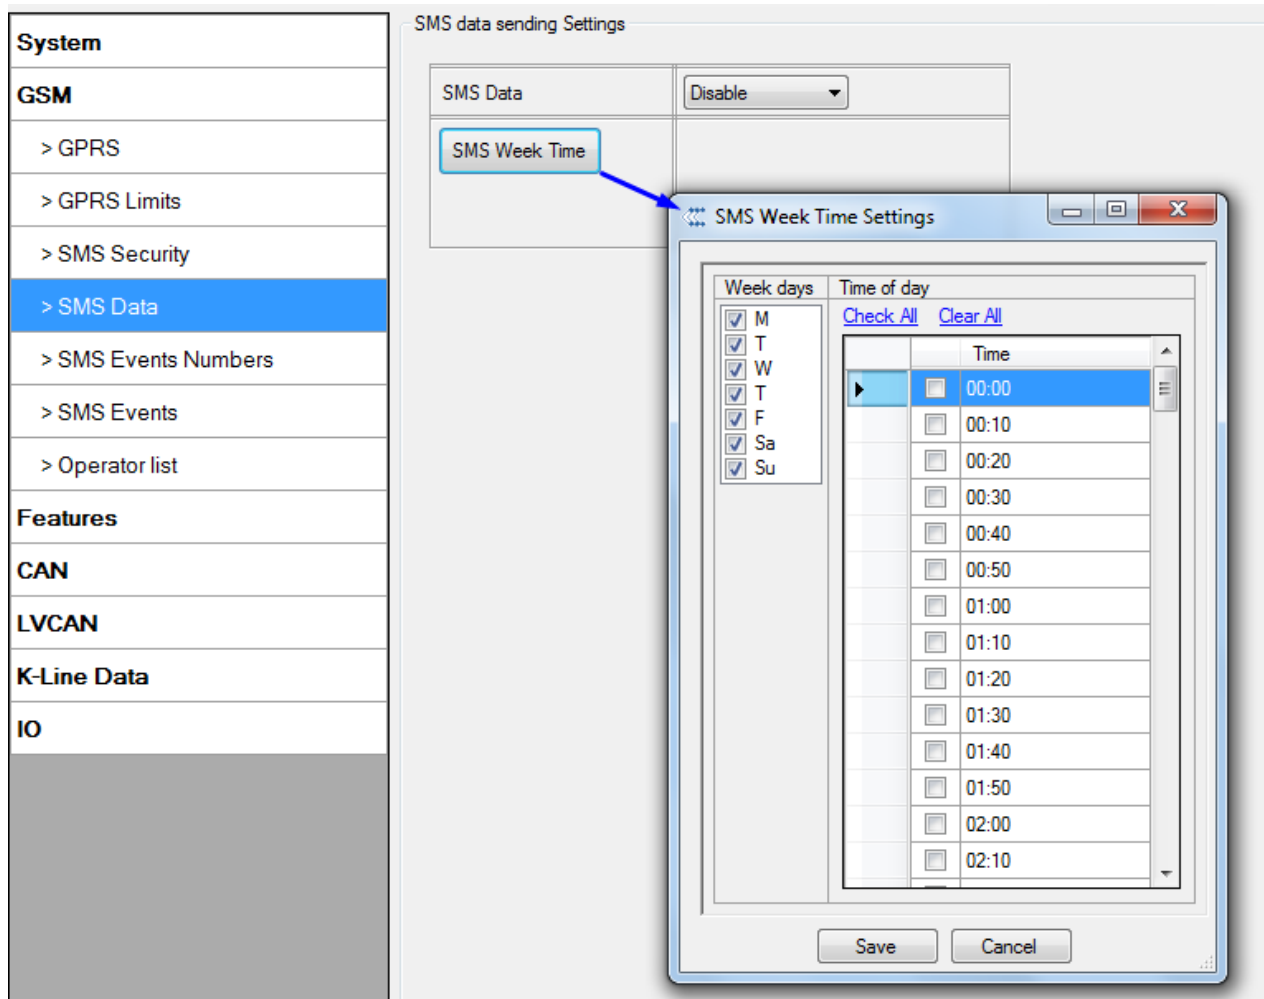

Figure 26 GSM->SMS Settings Configuration (2)
SMS data sending Settings enables or disables **periodic** data and event SMS sending to server (Figure 26). Configuration is divided into 4 main parts:
- Frame border – frame border is an additional border around Geofence zone. It is additional area around defined zone used to prevent false event recording when object stops on the border of the area and because of GPS errors some records are made inside area and some – outside. Event is generated only when both borders are crossed. See figure 26 for details: track 1 is considered to enter the area while track 2 does not.